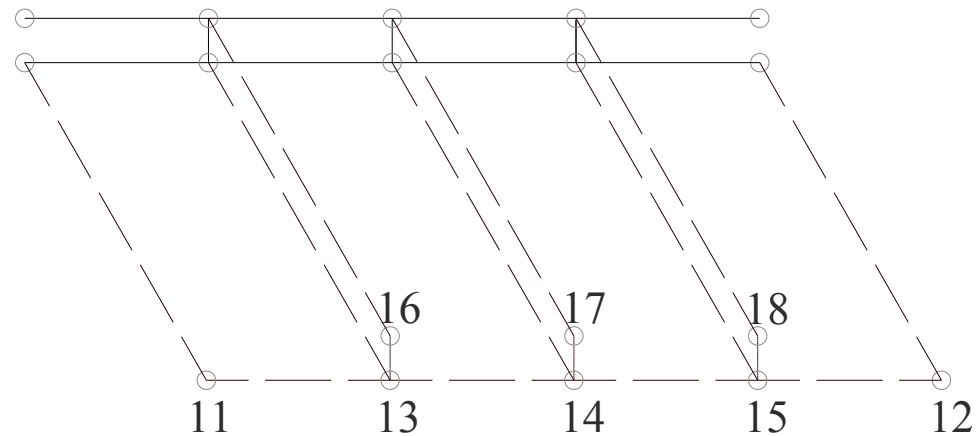

Figure 12. Extend of the strake in z-direction
Step 2: Extend of the strake in z-direction, see Figure 12